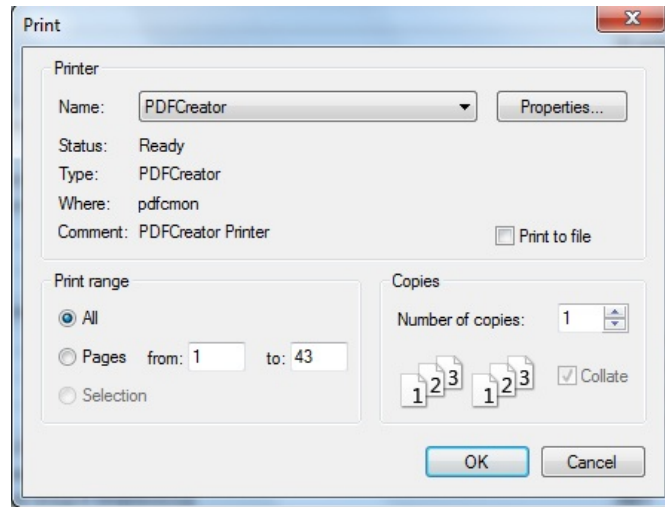

Figure 2: Print Pop-Up
8. The Print pop-up appears (See Figure 2).